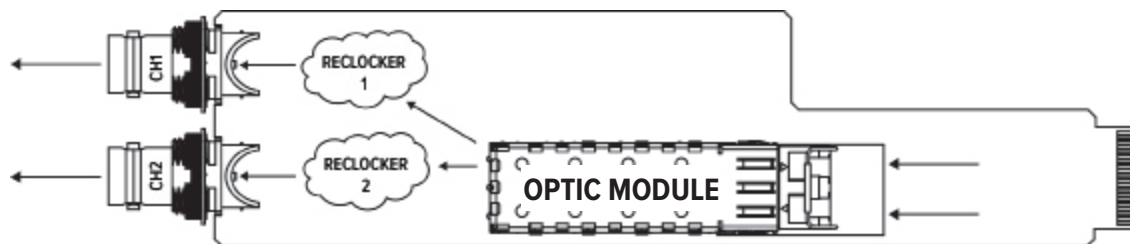

Figure 2. Sample Dual Video Receiver Signal Flow (2 SDI Outputs).
- Dual Receive (2RX), see Figure 2.